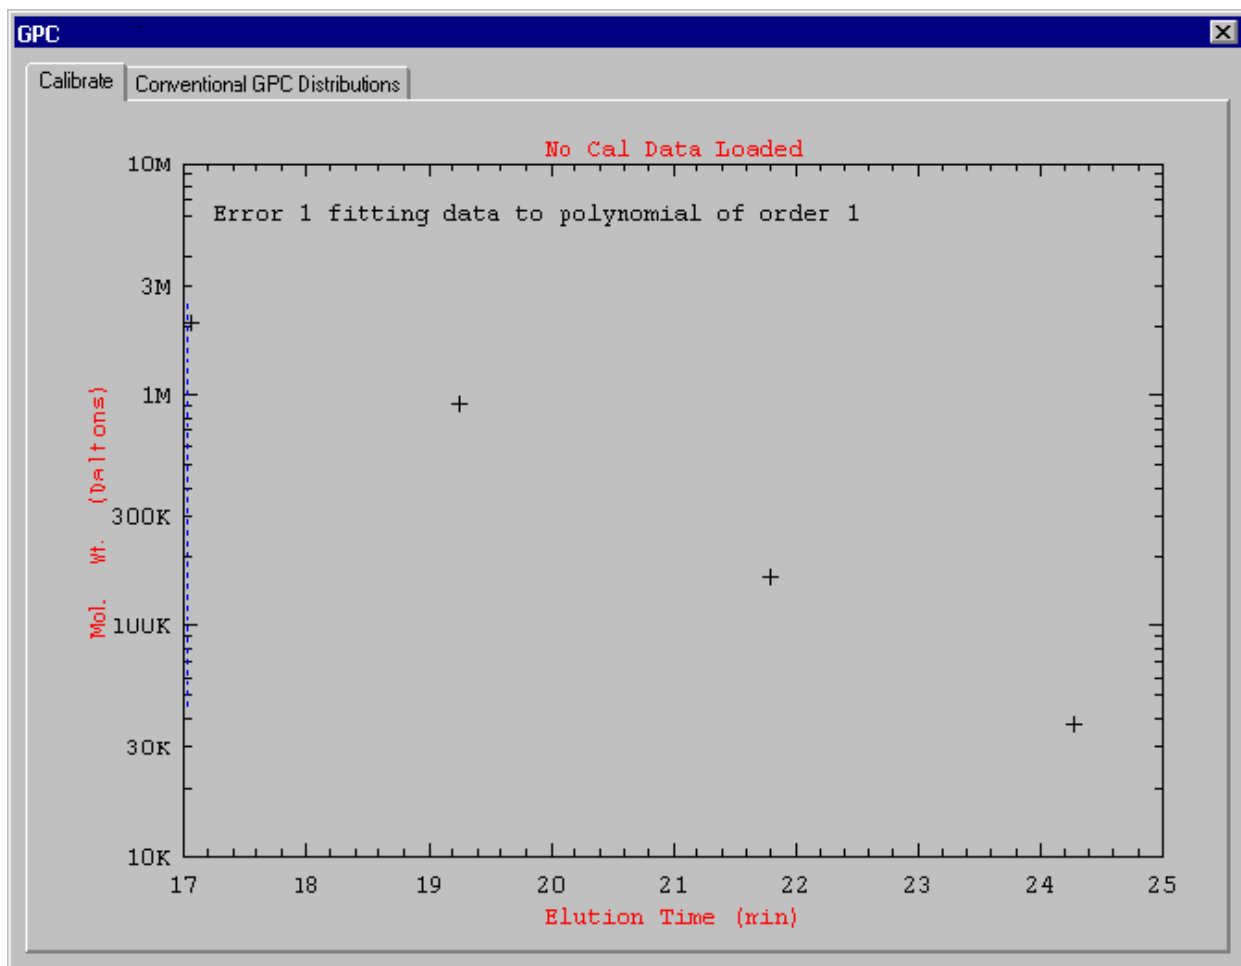
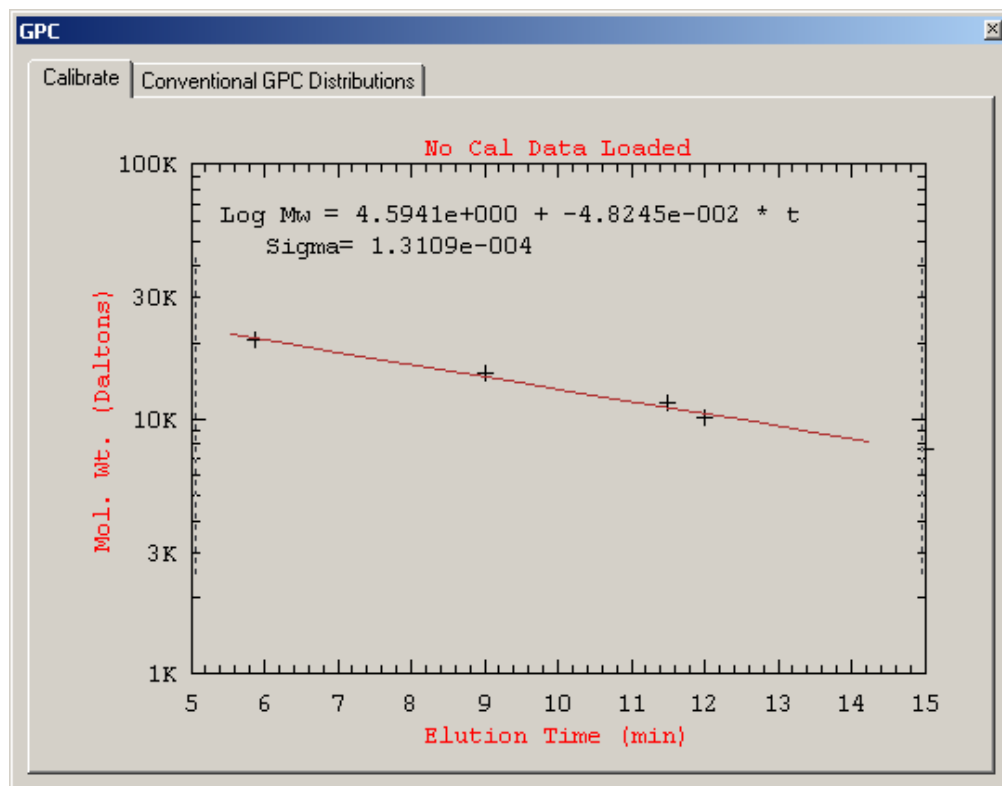

Figure 5-29: Calibration Plot
Figure 5-30: Calibration Plot with Equation
- d) Close the *Narrow Standard Information* dialog box to present a plot containing the points indicated in the table.(Figure 5-29). Drag the blue line from the left axis to set the polynomial fit. If you drag the line all the way to the right, all data points will be included. The plot will include the equation for the calibration line as shown in Figure 5-30.